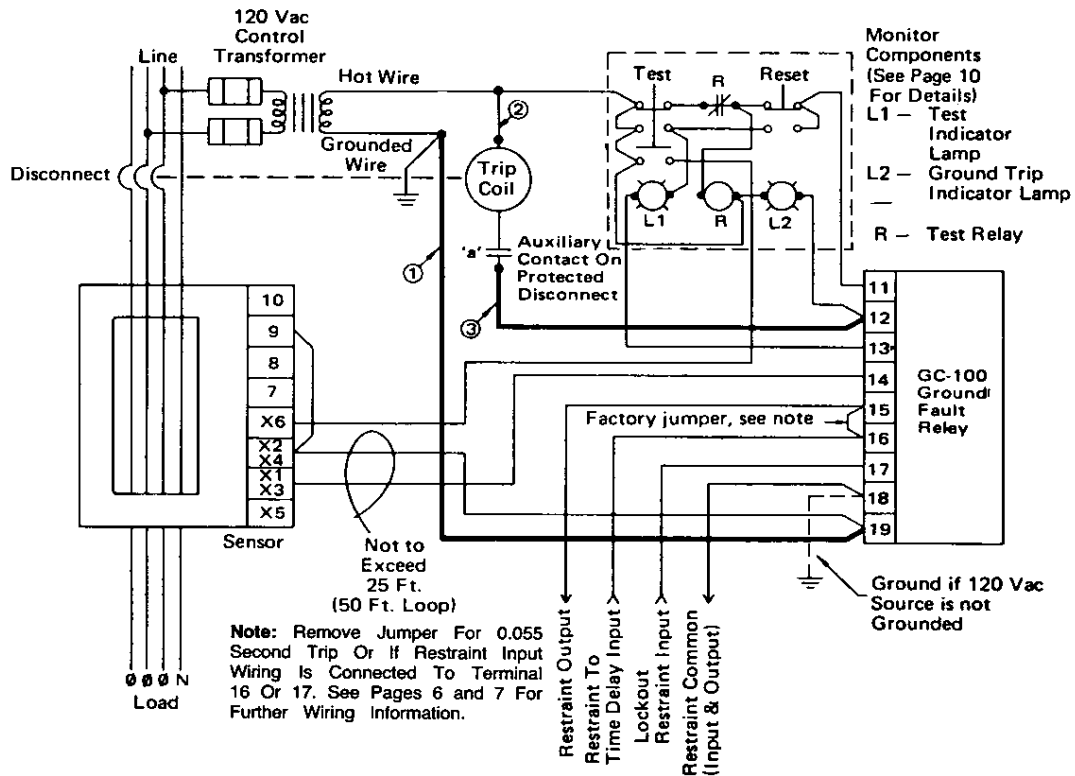

FIGURE 2
In single relay applications or when zone selective interlocking is not used, allowing a GC-100 to restrain itself makes all five time delays available on each relay. Connections for this application should be made as shown in Figure 2.
Connections for standard application should be made according to the wiring diagram in Figure 2. Wires from the Sensor to the Ground Fault Relay should be no longer than 25 feet and no smaller than No. 14 AWG. Wires from Monitor Components should be no longer than 50 feet and no smaller than No. 18 AWG. Wires 1, 2 and 3 and Control Transformer should be sized to deliver the necessary current to the Trip Coil at 55% rated output voltage of the Control Transformer.
**Note:** All Power Supply and Test Ckt. Connections Are **Not** Shown For Clarity. See Fig. 2 For Complete Individual Relay Wiring
The GC-100 Ground Fault Relay and Sensor may be tested with or without tripping as desired. Each Sensor is provided with a test winding of 800 turns (terminals X5, X6) and should be connected as shown in Figure 2.
The Monitor Components shown in Figure 2 and listed below provide both test with tripping and test without tripping functions. A nameplate is provided with each Ground Fault Relay giving operation instructions for this connection.